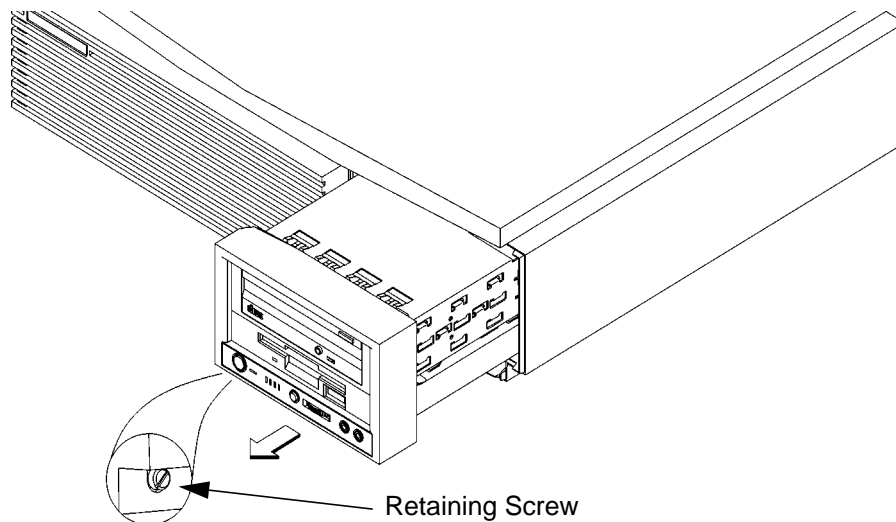

Figure 27
- 1 Remove the storage tray retaining screw, as shown in Figure 27.
- 3 Place your fingertips in the groove on the bottom of the storage tray bezel. See Figure 27.